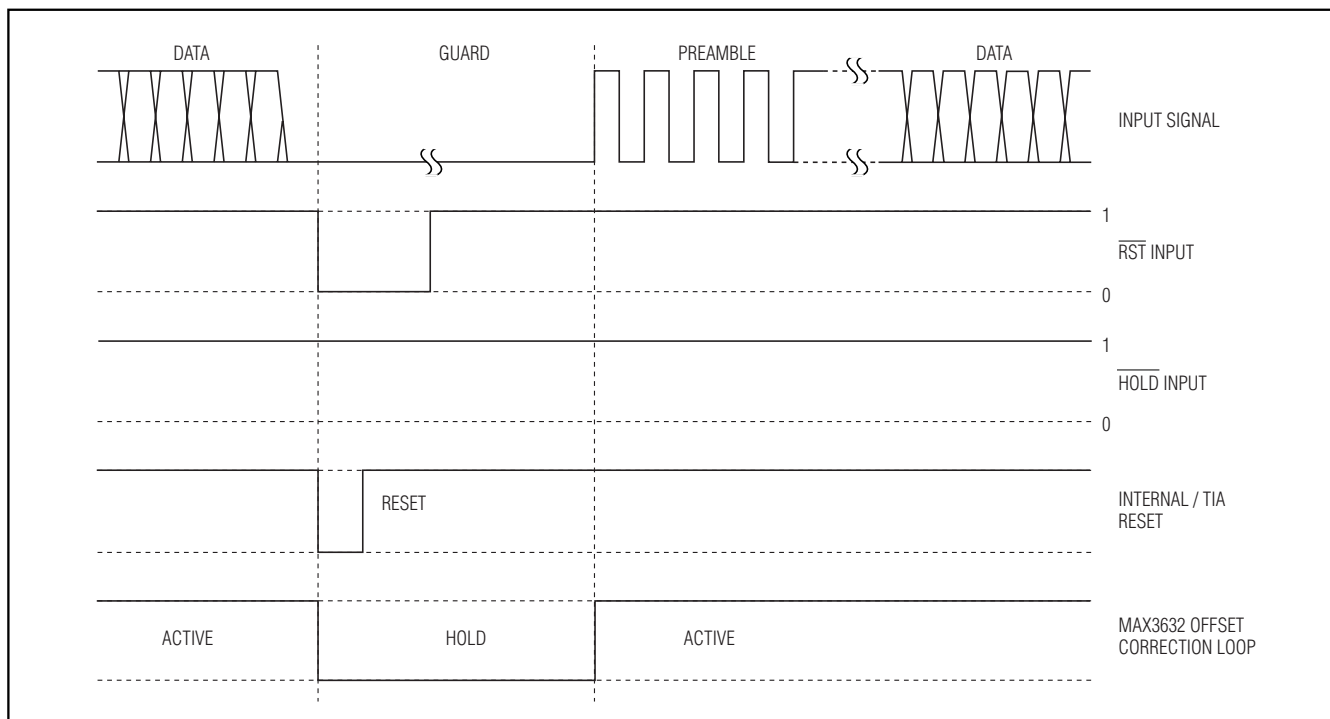

Figure 7. $\overline{RST}$ Timing Method 1
The LVPECL-compatible reset input ($\overline{\text{RST}}$) is used to transmit a reset signal to the MAX3630/MAX3631 TIAs. When the $\overline{\text{RST}}$ input transitions low, a reset signal is generated by the internal logic and transmitted to the MAX3630/MAX3631 TIAs as described above in the *Input Stage* section. The data input (IN) must be a logic zero when $\overline{\text{RST}}$ is asserted during the guard time (Figure 7). The $\overline{\text{RST}}$ signal is also used to disable (hold) the offset correction loop until the first transition is detected by the reset and hold logic, thus indicating the beginning of the next burst signal. The hold input (HOLD) may be used to provide alternative offset cancellation control modes. Timing and operation of the $\overline{\text{RST}}$ and HOLD inputs are described in more detail in the *Applications Information* section.
The $\overline{\text{RST}}$ and $\overline{\text{HOLD}}$ LVPECL-compatible inputs of the MAX3632 provide three different modes for disabling (holding) the offset correction loop during routine operations. The first mode of operation requires the single reset input, $\overline{\text{RST}}$, which is the same signal used to create the reset signal for the MAX3630/MAX3631 TIAs to arm its threshold setting circuitry. Refer to the MAX3630/MAX3631 data sheet and the *Input Stage* section for additional information. For this method, illustrated in Figure 7, the $\overline{\text{RST}}$ signal disables (holds) the offset correction loop until the transition detector in the MAX3632 identifies the beginning of the next burst. The burst-mode reset signal, $\overline{\text{RST}}$, must occur entirely within the guard time interval to prevent corrupted data. The data input (IN) must be a logic zero when $\overline{\text{RST}}$ is asserted (Figure 7). When operating in this mode, the $\overline{\text{HOLD}}$ input should be set to a valid LVPECL high ($1600\text{mV} \geq V_{\text{HOLD}+} - V_{\text{HOLD}-} \geq 200\text{mV}$). If the functionality of the $\overline{\text{HOLD}}$ input is not used in the application, it can be con-